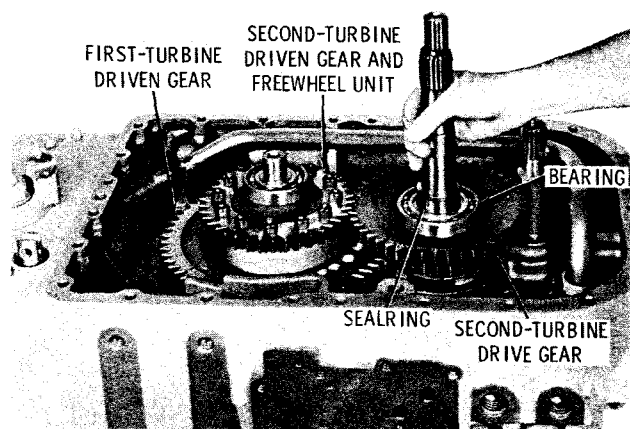

Fig. 5-15. Removing second-turbine drive gear, turbine driven gears, and freewheel unit
(1) Remove the second-turbine drive gear and attached parts (fig. 5-15). Remove
(2) Remove the ball bearing from the second-turbine drive gear only if replacement is necessary (fig. 5-15).
(3) Remove the first-turbine driven gear and the second-turbine driven gear and freewheel unit as an assembly (fig. 5-15). Refer to paragraph 6-9 for freewheel unit rebuild instructions.